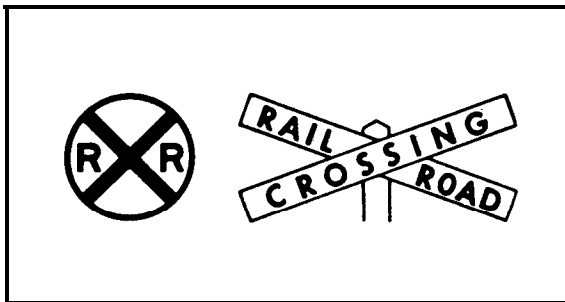

FIGURE 13
h. **Railroad Crossing Signs.** Railroad crossing signs are usually of two types (Figure 13): a circular sign with an “X” and the letters “RR,” placed at some distance from the railroad tracks, warns drivers that the tracks are ahead; a sign made only of crossed bars and bearing the words “Railroad Crossing” may be placed immediately at the crossing.